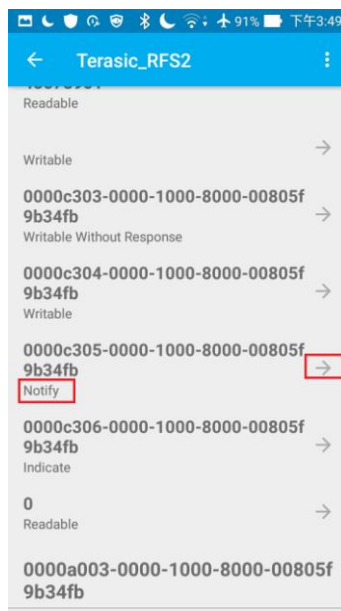

Figure 3-13 Read string from FPGA
- Find the “Notify” option and press the “→” to enter the read function (See Figure 3-13).